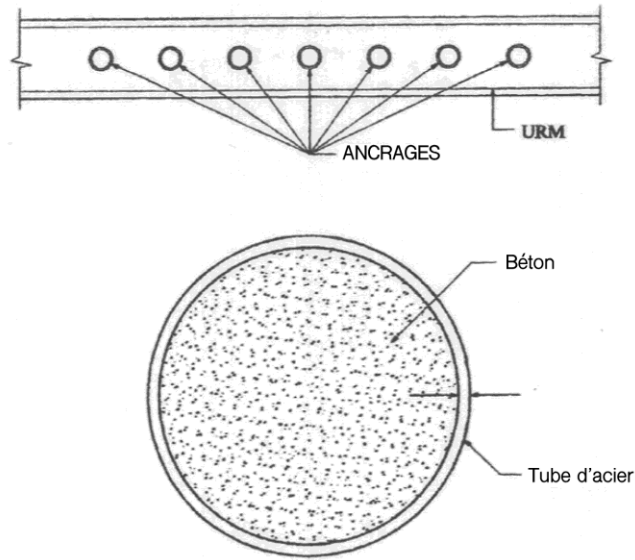

FIGURE 1 - ANCRAGE CINTEC
**2.1.1** The Cintec Pipe Anchor Retrofit System is used to retrofit unreinforced masonry (URM) structures and nonductile concrete structures. Figure 1 provides details of the system.